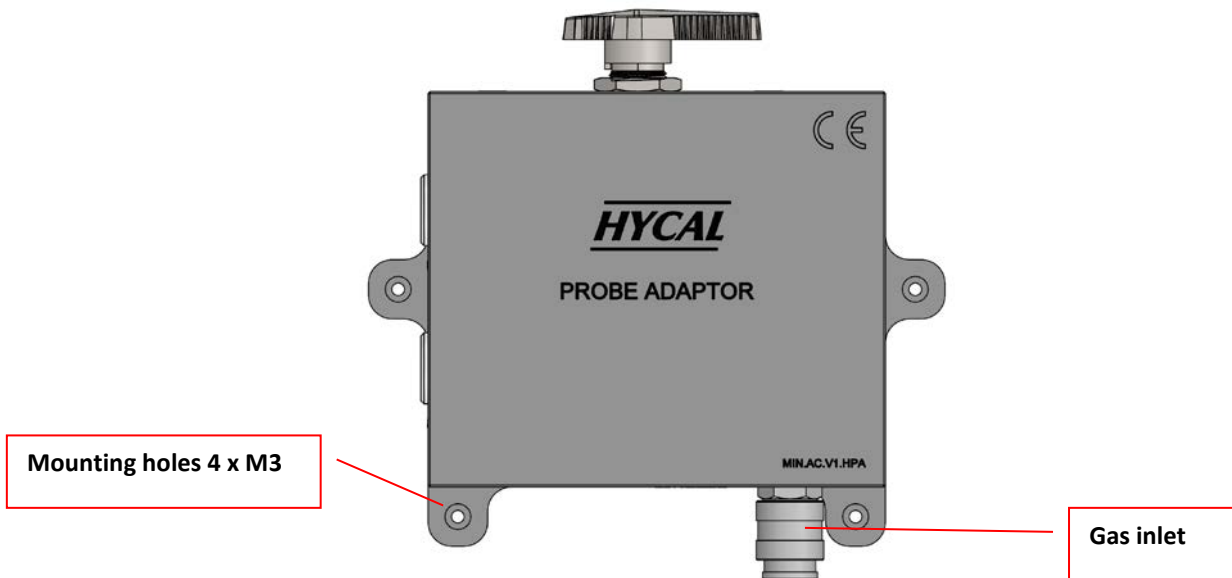

Figure 3: Hycal probe adaptor front view
1. Mount the probe adaptor close to the melt using the 4 x M3 mounting holes (Figure 3). Choose location to ensure that probe adaptor temperature does not become hot to the touch (max. 60°C).
3. Connect the quick-release plug to the gas inlet of the probe adaptor (Figure 3) .